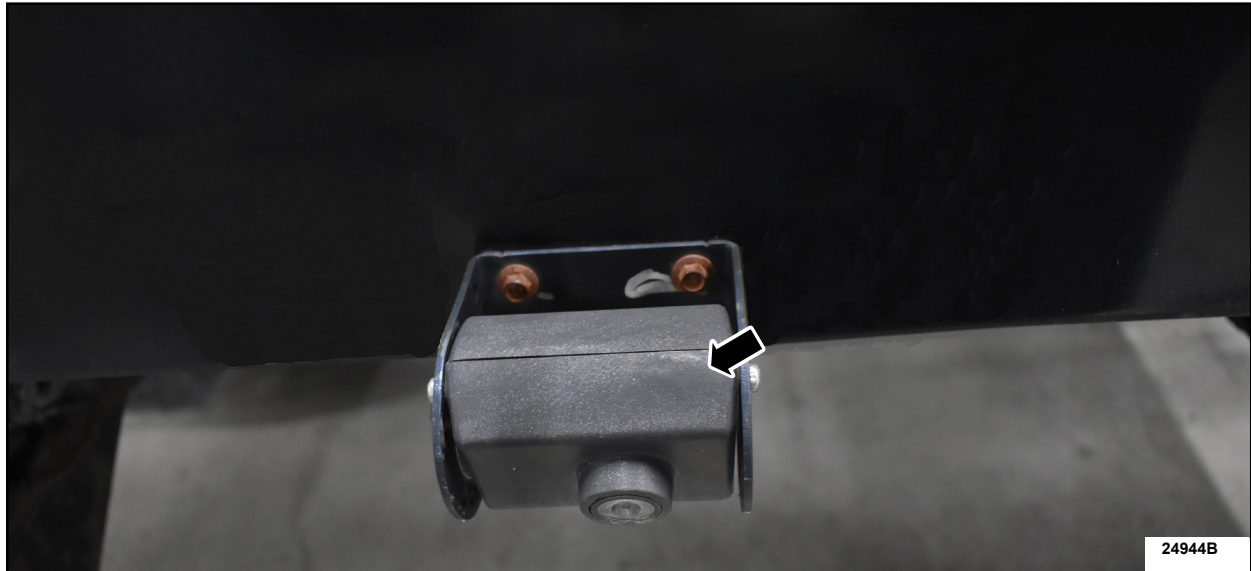

FIGURE 5
1. Locate the rear parking aid camera / video camera. See Figure 5.